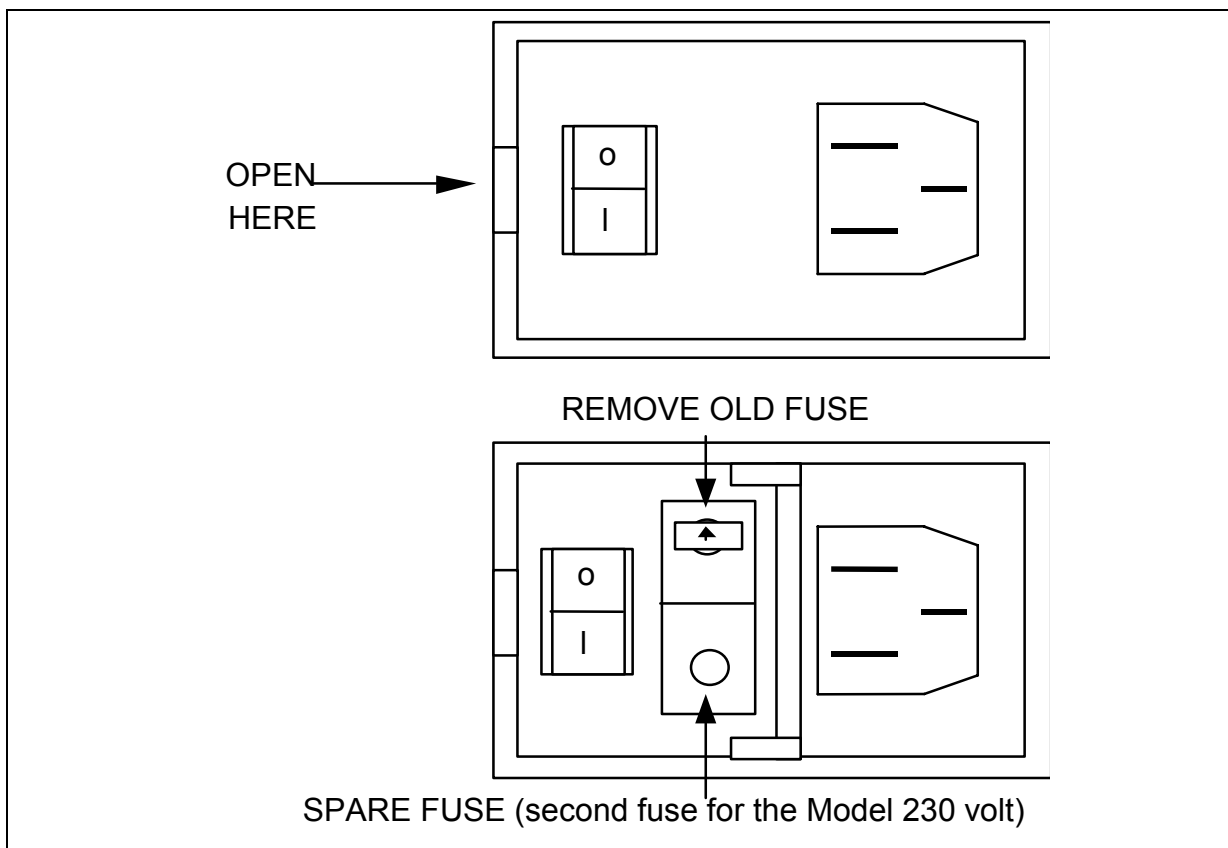

FIGURE 10-4: Main Fuse Holder
2. Use a small screw driver to pry open the AC inlet adapter located on the left-hand side of the analyzer (see Figure 10-4).